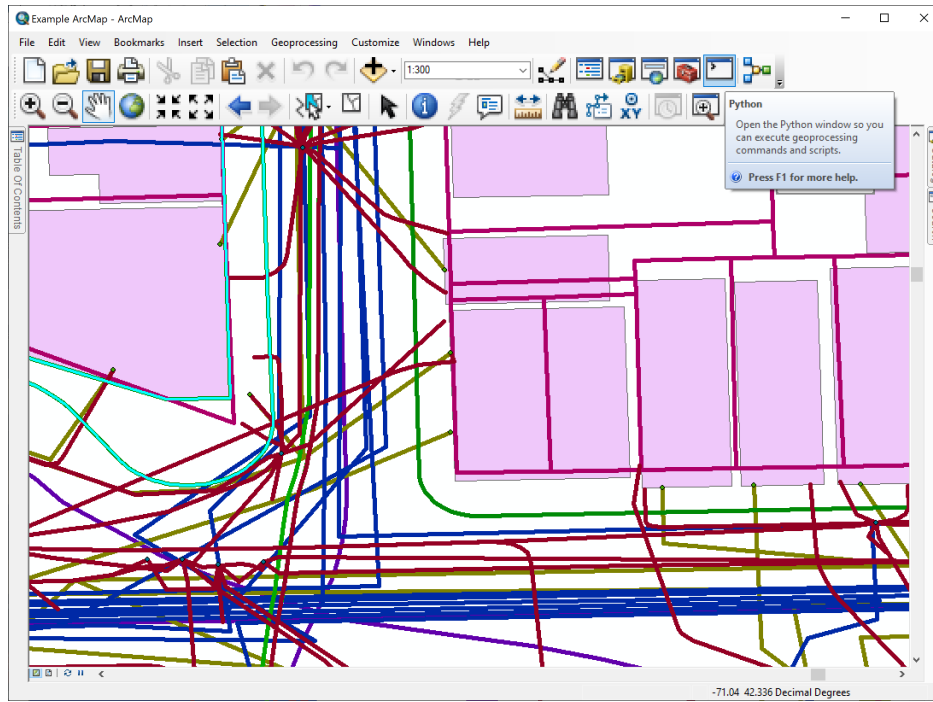

Figure 21: ArcMap Open Internal Python Terminal
1. Open the **python terminal** within ArcMap (see Figure 21)